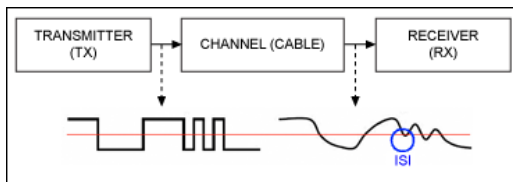

Figure 1. ISI at the receiver end.
Recent advances in video applications, along with the exponential expansion of data traffic volume, have raised the demand for higher data rates. As a result, low-cost twisted-pair (TP) cables have gained special interest. However, frequency-dependent attenuation over long runs of these TP cables is a major limiting factor to their optimal use. This frequency-dependent attenuation causes significant intersymbol interference (ISI) in the received signal, which, in turn, creates difficulty for clock and data recovery and causes a higher bit-error rate (BER). **Figure 1** shows the representation of a transmitted signal being degraded by the cable before the signal arrives at the receiver. By significantly reducing ISI and recovering the severely degraded data, the transmitter and the receiver can employ some form of line equalization to enable reliable operation.